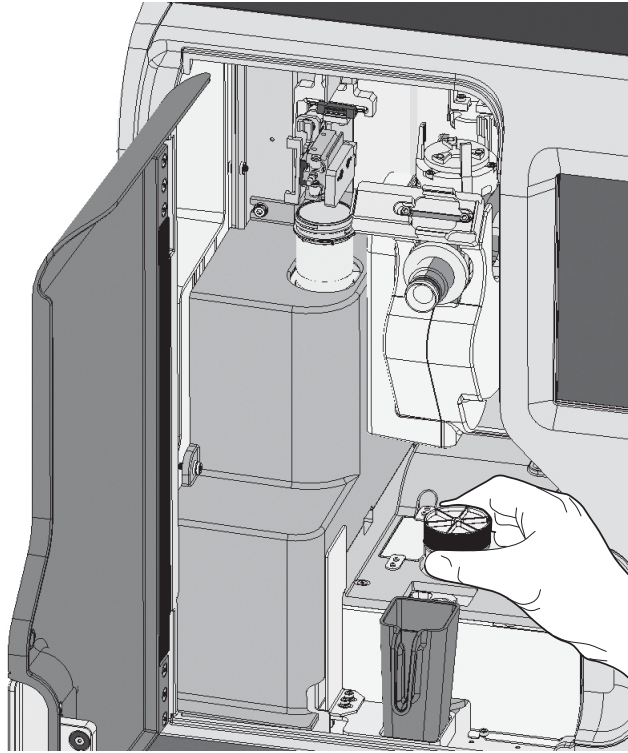

Figure 7-15 Load vial
- Gently place the labeled, tightly capped PreservCyt vial containing the patient sample into the disperser cup until the bottom of the vial rests on the disperser cup base. Refer to Figure 7-15.